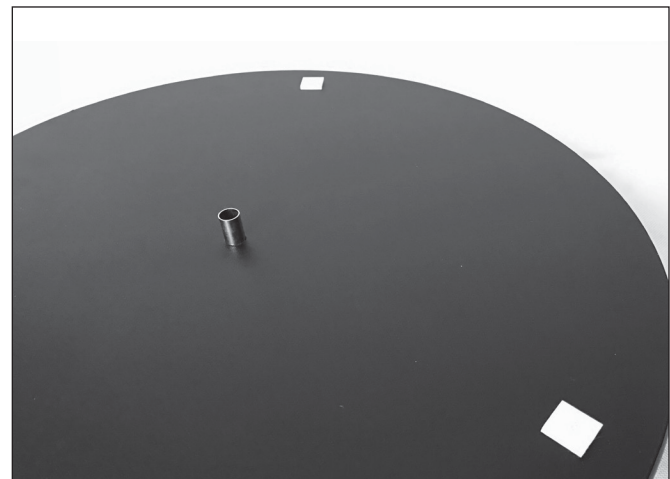

Figure 11. With the bottom groundplate standing on its three feet, insert the azimuth axle sleeve into the center hole of the groundplate.
8. Now place the metal azimuth axle sleeve in the center hole of the bottom groundplate, as in **Figure 11**.